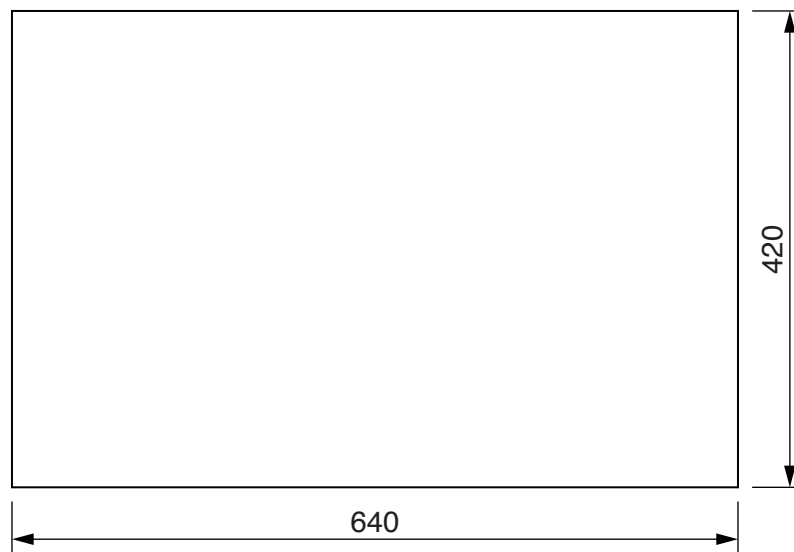

Fig. 8
- (a) (i) Fig. 8 shows the acrylic sheet from which the tray will be cut.
Draw on Fig. 8 the development (net) of the tray.